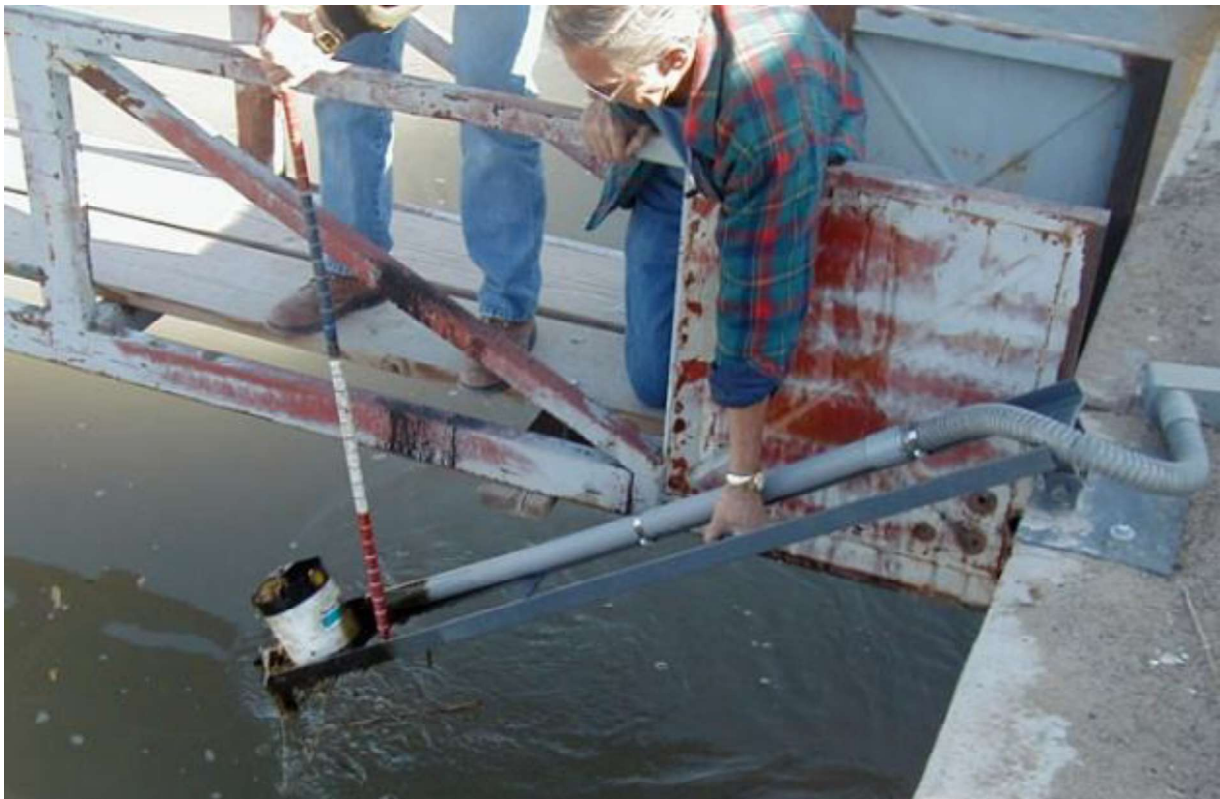

Figure 5-12. Argonaut-SL Mounting Example #2
- This 1500-kHz SL (**Figure 5-12**) is installed in a rectangular, concrete line irrigation channel.